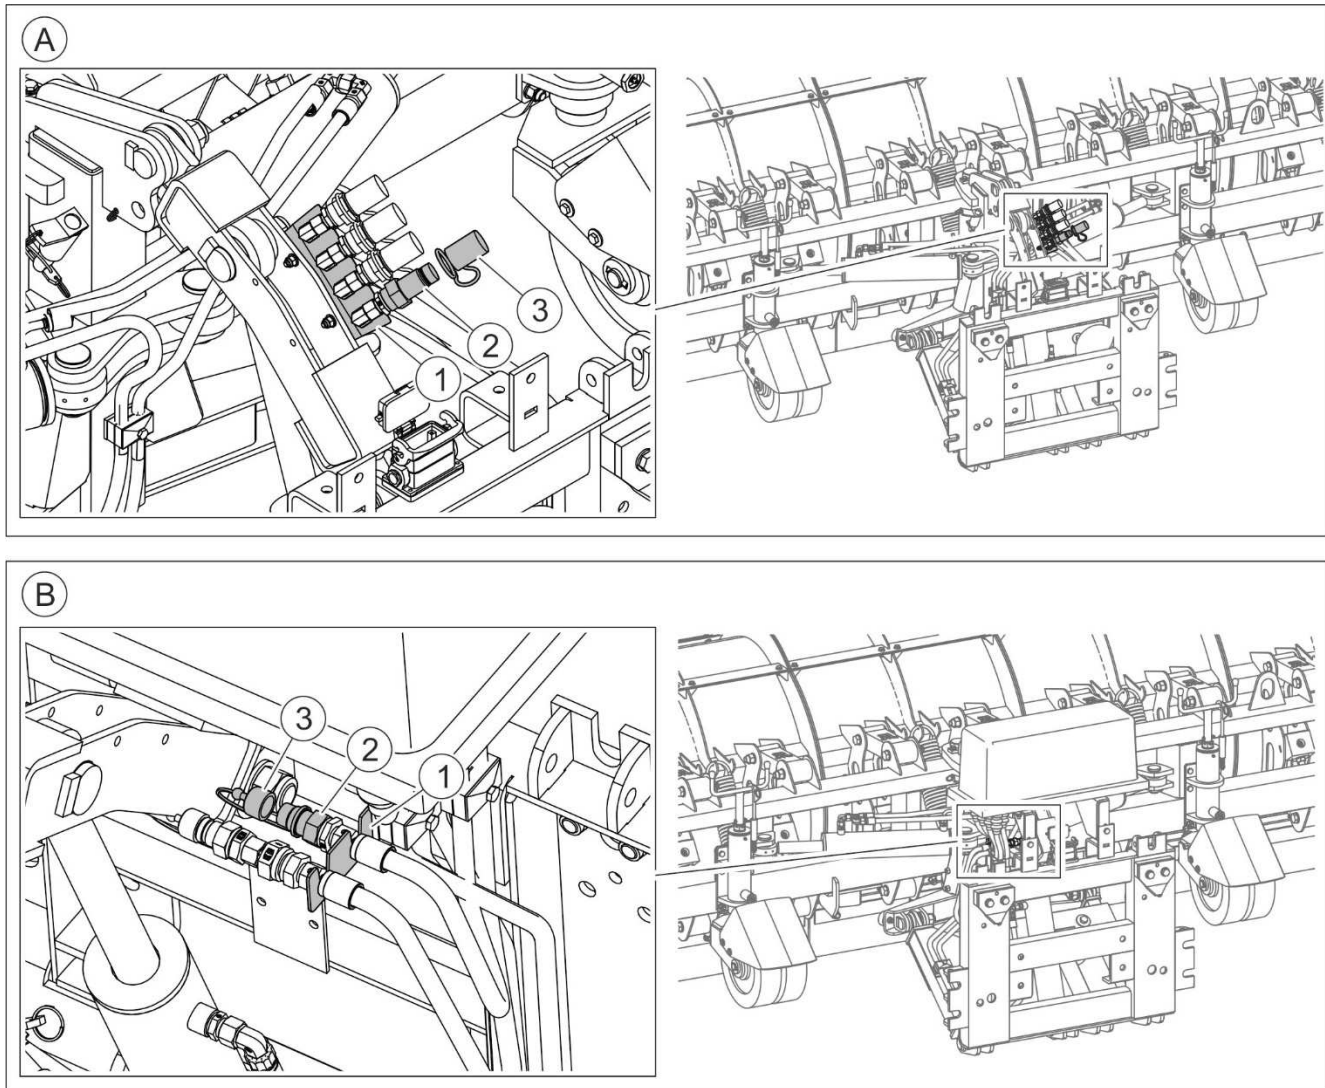

FIGURE 4.23 Protection of hydraulic quick couplers.
- D) Disconnect two pairs of quick couplers of the snowplough's hydraulic system conduits from the connectors of the carrying vehicle's external hydraulic system (FIGURE 4.4). Protect the conduit quick couplers with plugs and place them in the bracket on the snowplough's frame (A) (FIGURE 4.23). Disconnect the snowplough's control panel wiring harness together with the panel from the control socket on the snowplough and protect it against adverse weather conditions. Disconnect the snowplough's electrical system connection from the socket of the carrying vehicle's power supply wiring harness (FIGURE 4.3) and secure it with a plug.
- D) Disconnect the pair of quick couplers of the snowplough's hydraulic system conduits from the connectors of the carrying vehicle's external hydraulic system (FIGURE 4.5). Protect the conduit quick couplers with plugs and place them in the bracket on the snowplough's frame (B) (FIGURE 4.23). Disconnect the snowplough's control panel wiring harness together with the panel from the control socket on the snowplough and protect it against adverse weather conditions. Disconnect the snowplough's electrical system connection from the socket of the carrying vehicle's power supply wiring harness (FIGURE 4.3) and secure it with a plug.